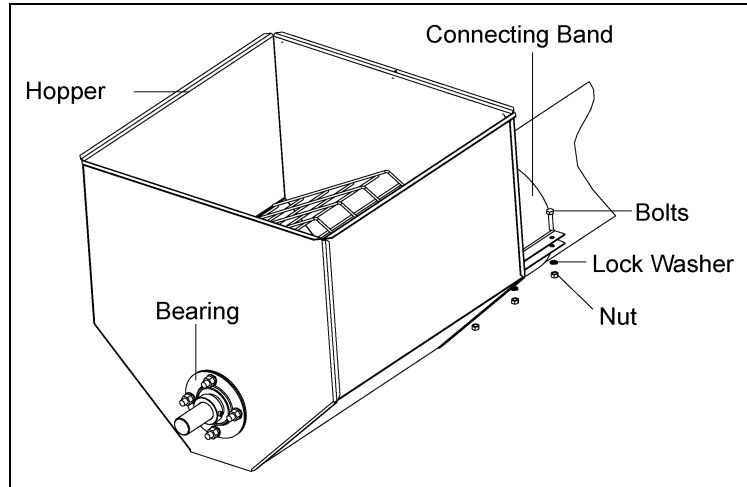

Figure 4F
- A. Slide the hopper onto the tube and align the end of the flight approximately 1/2" from the surface of the bearing. With the proper distance set, install the proper bolt, lock washer and nut, and secure the hopper to the tube. (See Chart Below) and (See Figure 4F)